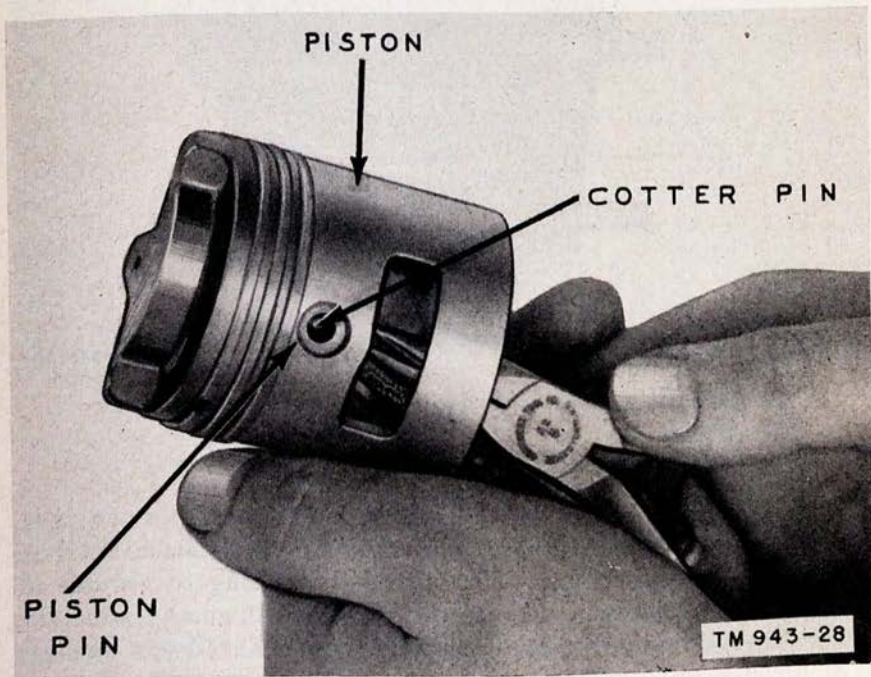

Figure 28. Removing piston pin retaining cotter pin.
- (2) To remove the cotter pin from the piston, turn the pin 90° and straighten out the bulge, using a hammer and a punch. Then turn the pin 180° and straighten out the opposite side of the bulge. By using a pair of pliers, withdraw the cotter pin (fig. 28). Tap the piston pin from the piston.
- (3) Spread the top piston ring and remove it from the piston. Remove the second and third rings in the same manner.